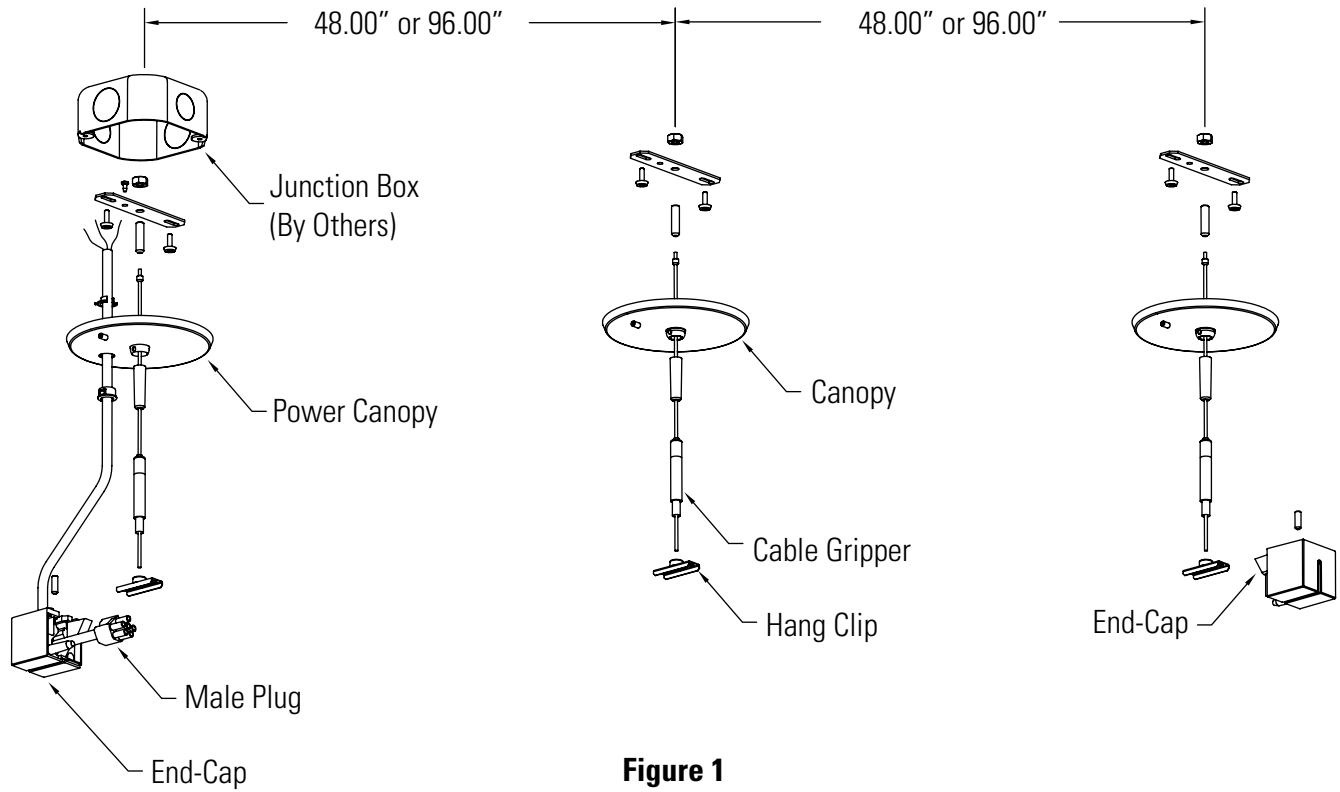

Figure 1
- A. Install the suspension assemblies to the junction boxes. (Fig. 1)
- C. The first suspension in each row should be from the power feed end set, which contains a male power cord and an end cap. (Fig. 1)